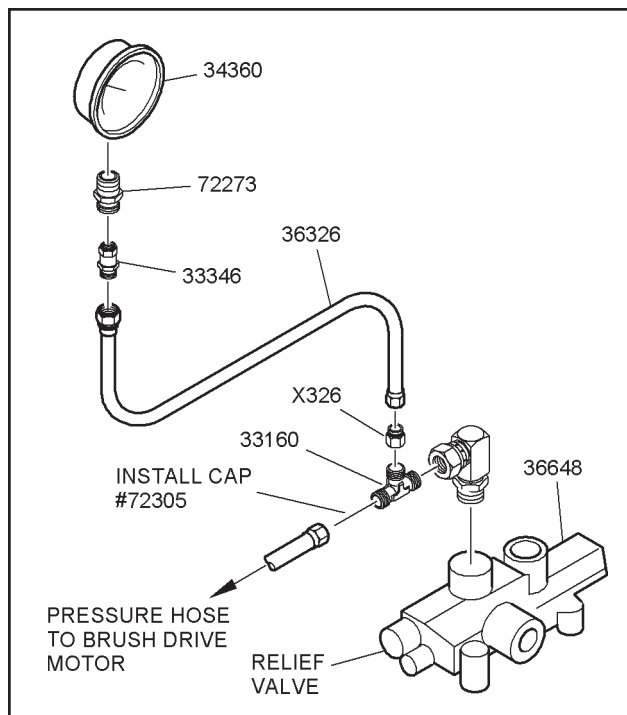

FIGURE 4-8. SETTING BRUSH DRIVE RELIEF VALVE
1. Plumb a 0 to 5000 psi gauge into the Brush Rotation Flow Circuit as shown in Figure 4-8. Parts needed for this step, including a pressure